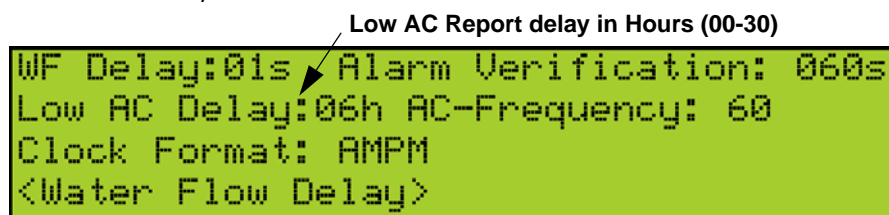

Figure 9-14 Low AC Report Delay Programming Screen
8. Enter the number of hours before a low AC report will be sent to the central station, then press ENTER. Refer to Figure 9-14.